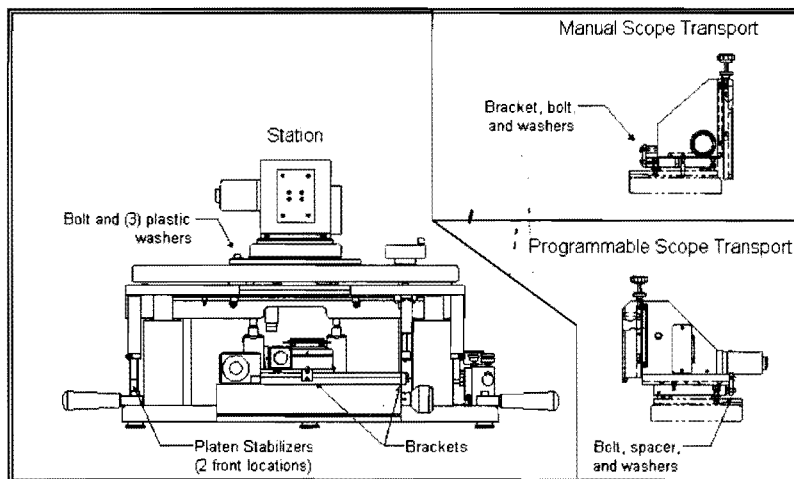

Figure 2
1. Locate shipping brackets by their tags and/or their red color. There are several. One is located on the microscope transport and two are located on the stage (see Figure 2).
6. Unlock the two front platen stabilizers (see Figure 2).